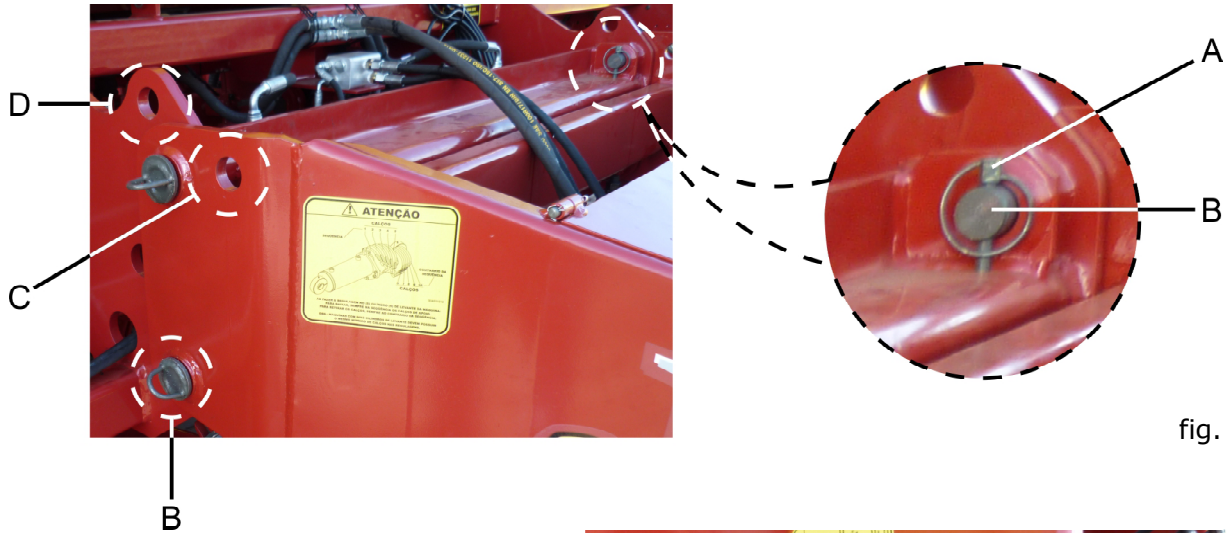

fig. 01
To lift the header, remove the lock pins with loop (A) (fig. 01) and remove the pins (B), then lift the header and place the pins in the holes (C) (D), so locking it with the lock pins with loop (A).